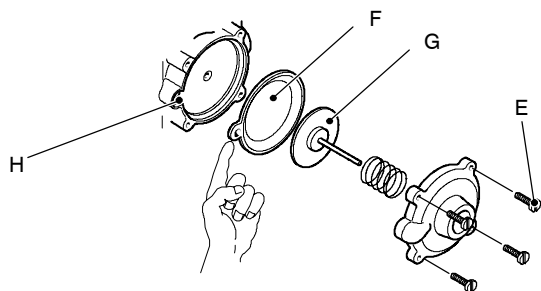

Fig. 12.5
- 3 Unscrew the four screws *E* (see Fig. 12.5) open the hydraulic operator and remove the membrane *F*.
**When assembling the membrane, ensure that its concave side faces towards the actuator plate *G* and the reference indicated aligns with the seat *H* (see Fig. 12.5).**